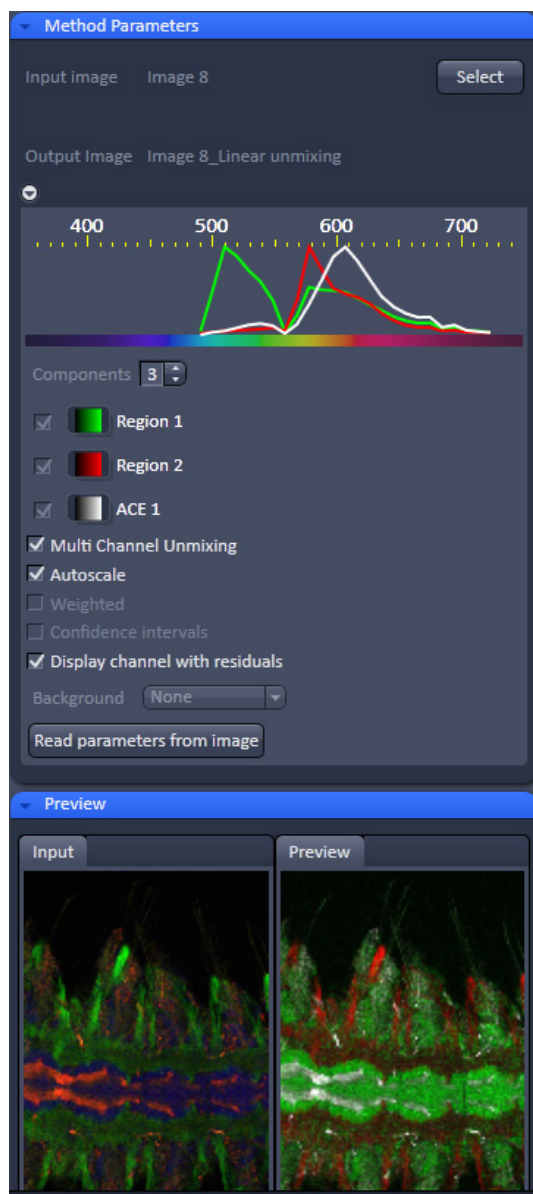

Fig. 431 Linear Unmixing panel
- In the **Linear unmixing** panel (Fig. 431), the number of spectrally distinguishable fluorescent components of the imaged sample can be selected from the **Components** selection box. The number of extractable components can not be higher than the number of acquired channels. The ZEN software is limited to a maximum of 10 components.
The following additional settings and functions are available for linear unmixing (see Fig. 431):